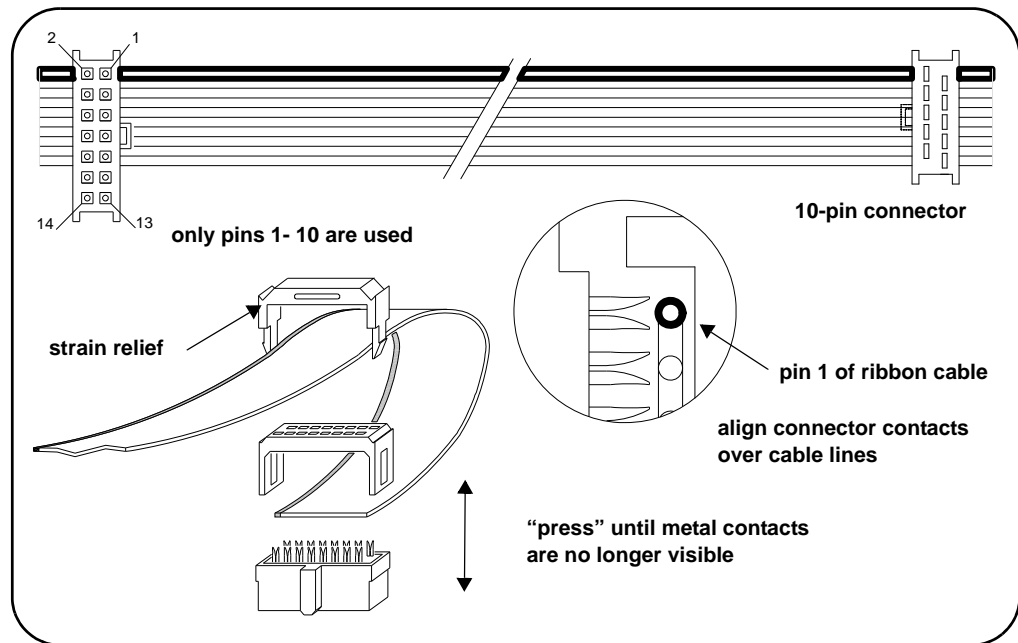

Figure 1-5. Y1158A 14-pin to 10-pin Connector Orientation and Cable Routing.
2. Position the ribbon cable connectors as shown in Figure 1-5. Route the cable **through** the connectors, noting the location of pin 1 on the cable. By convention, pin 1 is indicated in red (the dark line in the drawing).
6. Fasten the strain relief clamps over the cable and into the ribbon cable connectors as shown in Figure 1-5. Remove any excess cable after the clamps are in place.